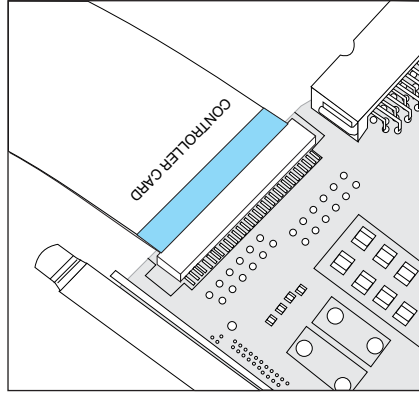
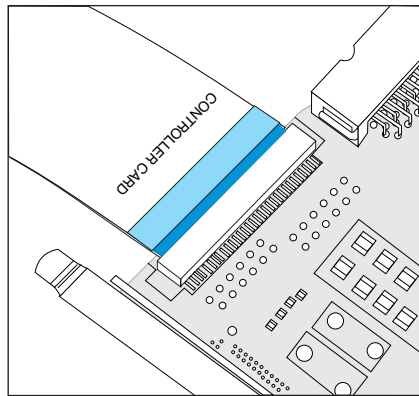

Figure 80. Service Controller card cable installed properly
Figure 81. Service Controller card cable not properly seated
- b. Before you reconnect the ribbon cable, ensure that its contacts are downward. *Carefully* install the cable to the rear of the service controller, being sure to install the cable straight in with no rocking or twisting during installation. Be sure to verify that the dark blue line on each cable connector end is not visible. This ensures that the cable is fully seated. See Figure 80 on page 299 and Figure 81 on page 299.